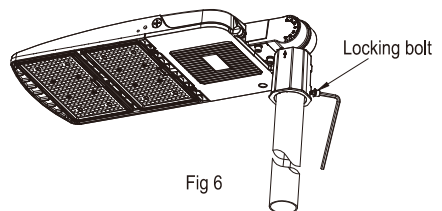

Fig 6
Step 6. Tighten the 4 locking bolts back, as fig 6